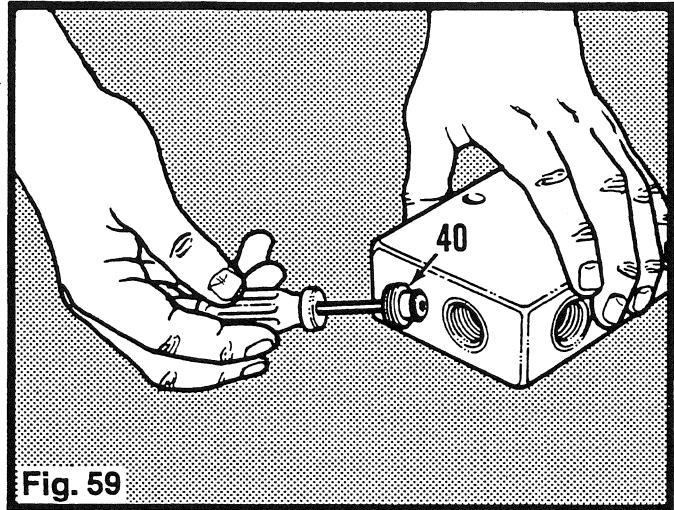

Fig. 59
8. Install the seat (40) in the housing and tighten it to the specification in the torque table. (Fig. 59)